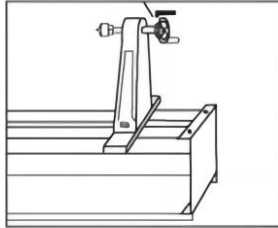

Figure 1
2. Remove the hand wheel by loosening set screw with 1/8" hex wrench away from spindle.(as figure 1)